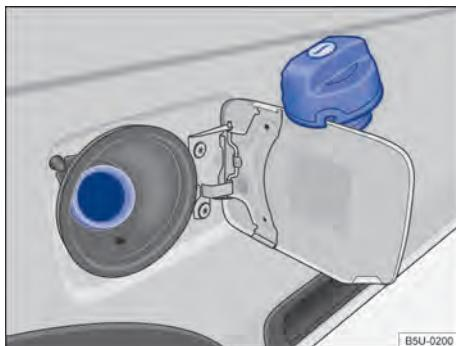

Fig. 159 Open tank flap with tank cap attached to the holder.
- Screw the cap anticlockwise and hang it over the tank flap → **Fig. 159**.